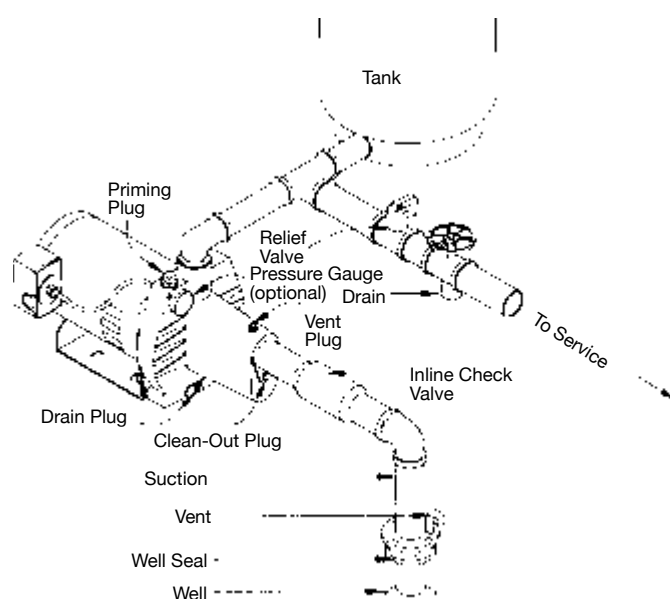

Fig. 2b SHALLOW WELL (WITH INLINE CHECK VALVE)
- b) **Suction Pipe:** It is recommended that only new, clean 1-1/4 inch pipe or hose be used. If the pump is installed any appreciable distance away from the source of water, the suction pipe should be increased to 1-1/2 inches. Horizontal lengths of pipe must gradually slope upwards from the source of water to the pump to avoid air pockets in the line. Thread compound should be used on all pipe joints and connections should be thoroughly tightened. **A foot valve must be installed** and its operation should be checked since a leak will prevent proper operation of the system. Make sure the foot valve is located so that it will be submerged at all times. If a sandpoint or driven well is used, install a check valve next to the pump suction instead of the foot valve (Fig. 2b). **All installations must have a foot valve or a check valve in the suction pipe.**